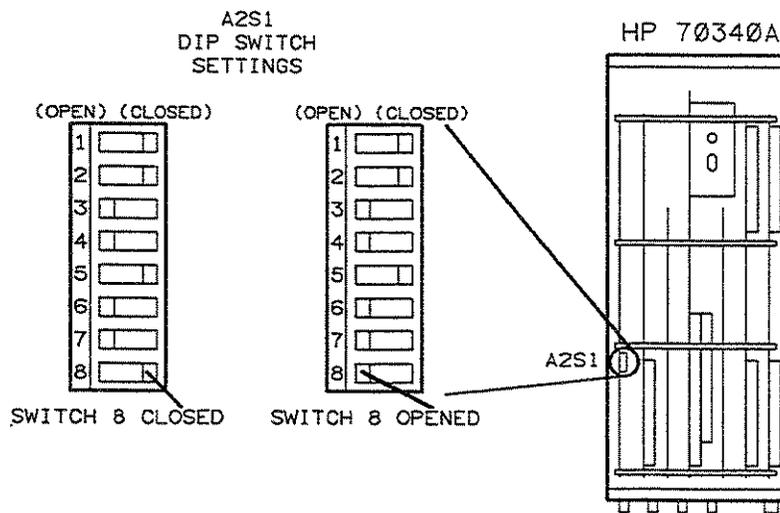

Figure 3-2. DIP Switch, S1, Settings
For many of the adjustment procedures, you must access the DIP switch, S1, located on Assembly A2 (HP 70340A) in order to close PG(8). PG(8) must then be opened at the end of the procedure in order to ensure that the calibration data is saved. PG(8) can be accessed through the hole in the top of the HP 70340A instrument cover *without* removing the cover from the instrument. For procedures which require access to this switch, refer to the following figure (Figure 3-2) which shows the location of the PG(8) with the cover removed.
Refer to Figure 3-2 for DIP switch, S1, location and positions.
Be certain to open PG(8) of the DIP switch, S1, when you finish running this procedure. If the switch remains closed, you risk the loss of all calibration data. Refer to Figure 3-2.